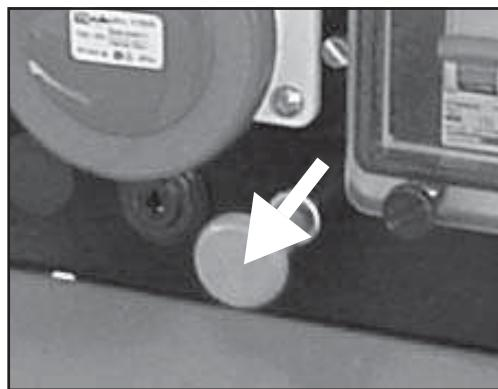

Fig.8
- 3) Ruggerini engine models: Pull the knob placed on the control panel (see fig. 8). Wait until the engine is completely off. Turn the key to the "OFF" position.